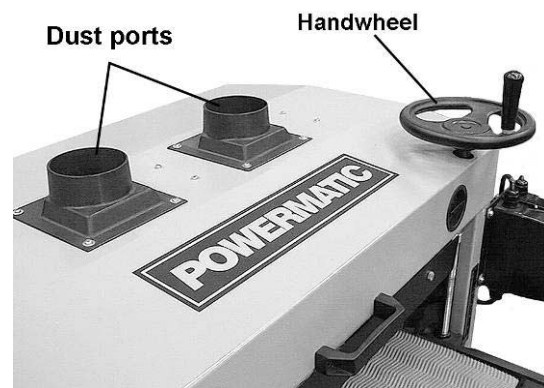

Figure 2
3. The handwheel assembly, used for raising and lowering the conveyor table, is designed to be mounted and removed quickly. Set the handwheel assembly down into the hole of the hood (Fig. 2) and rotate it until it seats itself upon the pins of the leadscrew below.
Mount the two dust ports to the top of the hood with eight 3/16 x 1/2 screws and eight flat washers (Fig. 2).